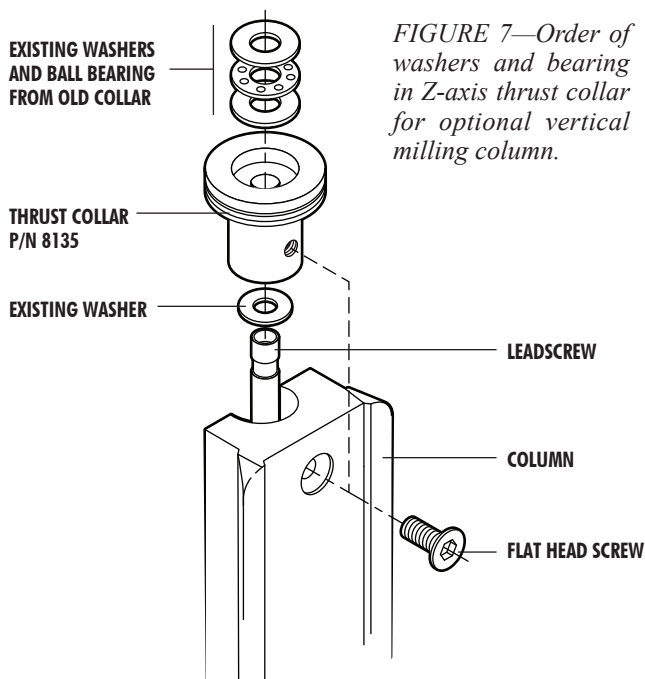

FIGURE 7—Order of washers and bearing in Z-axis thrust collar for optional vertical milling column.
7. VERTICAL MILLING COLUMN—Using a 1/8" hex wrench, remove the flat head screw that holds the Z-axis thrust collar to the vertical milling column. Remove the collar by lifting it up and off the leadscrew. If the spacer washer sticks to the bottom of it, remove it and reinstall it on the leadscrew shaft. Then remove the ball bearing thrust and two washers from the collar and reinstall them in the new Z-axis thrust collar in the same order. (See Figure 7.) Install the new collar on the leadscrew shaft and secure it to the bed with the flat head screw.
3. Locate the RPM sensor by holding it in the position shown in Figure 7. Mark the center of the hole on the plastic belt housing and drill a 1/16" hole. Fasten the sensor to the belt housing using the self-tapping screw provided. (Do not overtighten or you can strip the threads.) A plastic tie-wrap is provided to secure the sensor lead to the motor's power cord to keep it out of the way.